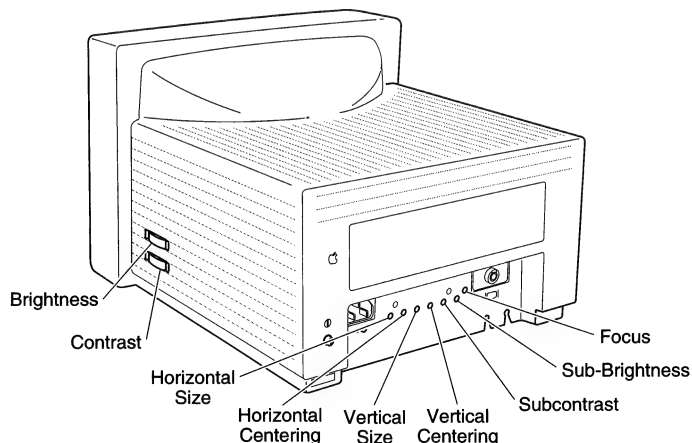

Figure 3 Adjustment Control Locations
2. FIGURE 3. Using the insulated screwdriver, turn the Horizontal Size control until the raster is $213.5 \text{ mm} \pm 2.5 \text{ mm}$ wide.
3. FIGURE 3. Using the insulated screwdriver, turn the Horizontal Centering control until the raster is centered (left to right) in the bezel.
2. FIGURE 3. Using the insulated screwdriver, turn the Vertical Size control until the raster is $159.5 \text{ mm} \pm 2.5 \text{ mm}$ high.
3. FIGURE 3. Using the insulated screwdriver, turn the Vertical Centering control until the raster is centered (top to bottom) in the bezel.
1. FIGURE 3. Turn the brightness control to the detent position (midrange) and turn the contrast control to maximum (full clockwise).
3. FIGURE 3. Adjust the Focus control for the best focus at the center of the screen.
1. FIGURE 3. Turn the brightness control to the detent position (midrange) and the contrast control to maximum (full clockwise).
3. FIGURE 3. Using the insulated screwdriver, adjust the Sub-Brightness control until the first bar of the test pattern is completely black and the second bar is just visible.
4. FIGURE 3. Using the insulated screwdriver, adjust the Subcontrast control until the luminance at the center of the screen reads in the middle of the "10" scale on the light meter.